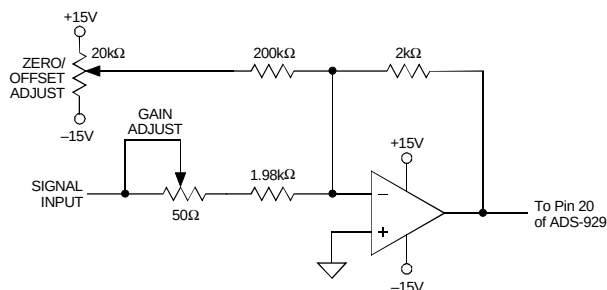

Figure 2. ADS-929 Calibration Circuit
Bypass all power supplies, as well as the REFERENCE OUTPUT (pin 21), to ground with 4.7µF tantalum capacitors in parallel with 0.1µF ceramic capacitors. Locate the bypass capacitors as close to the unit as possible. If the user-installed offset and gain adjusting circuit shown in Figure 2 is used, also locate it as close to the ADS-929 as possible.
- The ADS-929 achieves its specified accuracies without the need for external calibration. If required, the device's small initial offset and gain errors can be reduced to zero using the input circuit of Figure 2. When using this circuit, or any similar offset and gain-calibration hardware, make adjustments following warmup. To avoid interaction, always adjust offset before gain.
(Refer to Figures 2 and 3)
Any offset and/or gain calibration procedures should not be implemented until devices are fully warmed up. To avoid interaction, offset must be adjusted before gain. The ranges of adjustment for the circuit of Figure 2 are guaranteed to compensate for the ADS-929's initial accuracy errors and may not be able to compensate for additional system errors.
All fixed resistors in Figure 2 should be metal-film types, and multiturn potentiometers should have TCR's of 100ppm/°C or less to minimize drift with temperature.